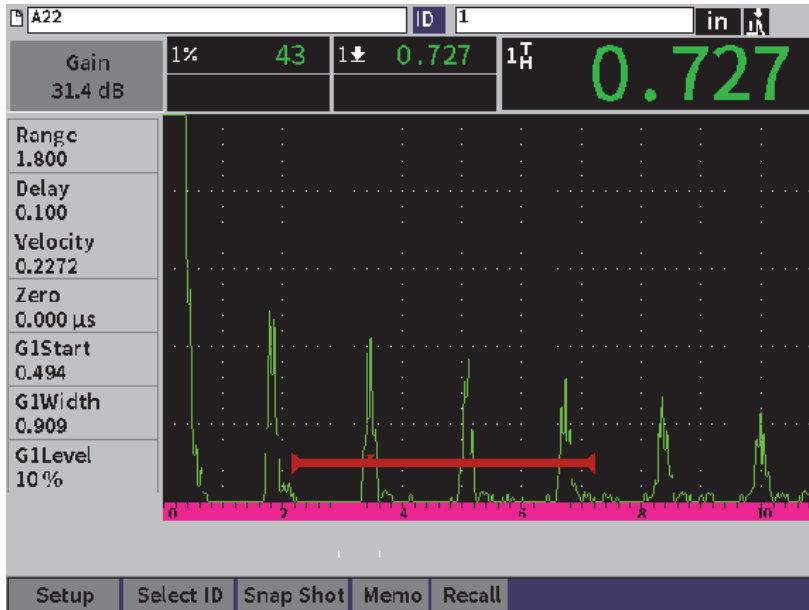

Figure 9-6 Saved file waveform
After you have saved data to a file, you can view the saved setup and waveform data. The waveform and basic setup parameters are displayed on one screen (see Figure 9-6 on page 110), and the complete setup information on another screen (see Figure 9-7 on page 111).
3. Press the Enter key to view the saved waveform and the basic setup data (see Figure 9-6 on page 110).